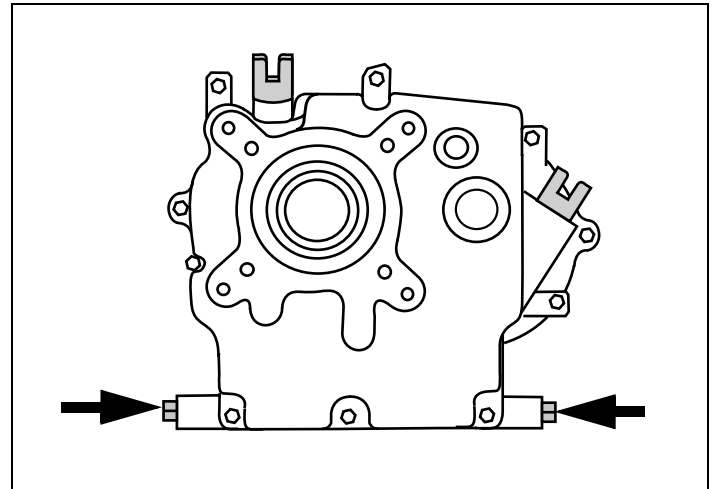

Figure 29. Oil Drain Plug Locations
1. Be sure you find the correct drain plug location, if provided. See Figure 29.
4. Clean area around oil drain plug. See Figure 29.
6. Remove oil drain plug, if present. See Figure 29.